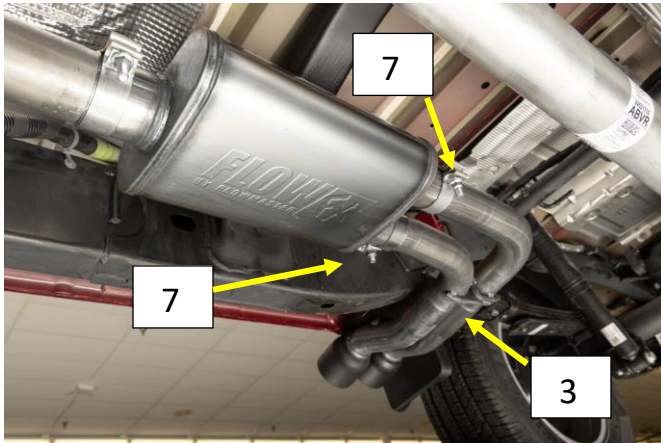

Figure.3
8. Install a Supplied 2.5" band clamps (7) on to the muffler outlet with the bolt at the top and the nut facing the ground. **Fig.3**
9. Install the Tail Pipe Assembly (3) into the muffler outlets. Tighten the clamps just enough to hold the tail pipe in place and still allow for adjustment.